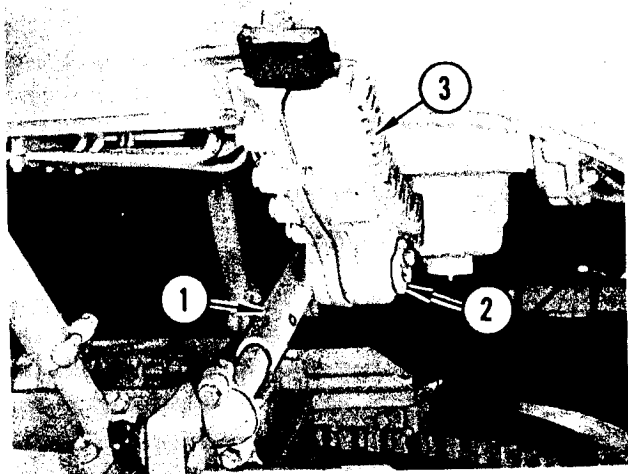

FIGURE 31. RACK REMOVAL
Refer to Figure 31. Remove ball cap at rack end of lateral shift link (1) and remove lateral shift link from rack ball stud. Remove two capscrews, lockwashers and large washer (2) from ball stud and plug. Remove ball stud and plug from rack assembly (3).